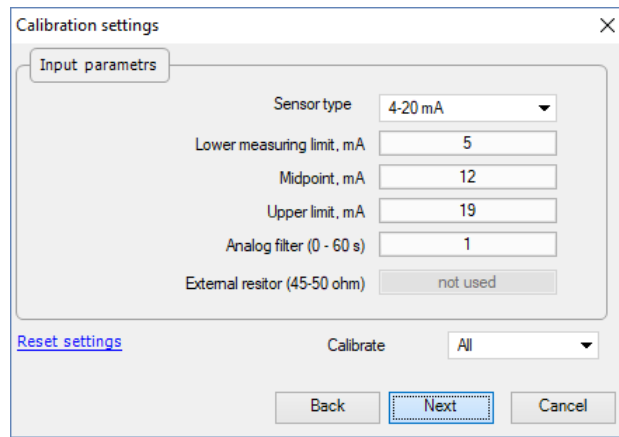

Fig. 6.2 Calibration settings
8. Select the type of input signal and other calibration parameters (Fig. 6.2)